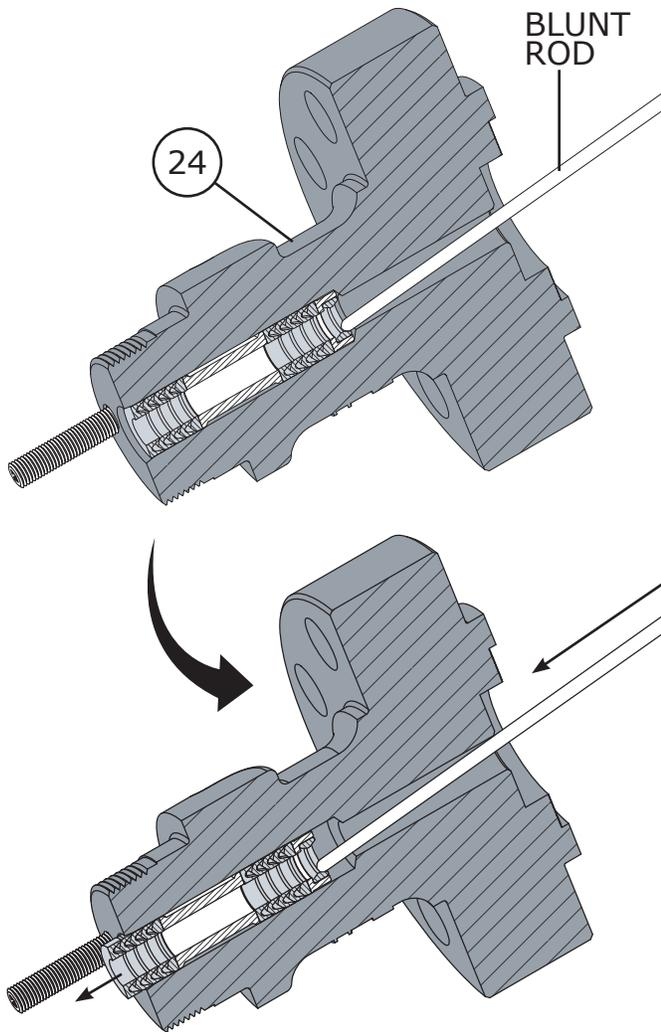

Figure 12 Packing Parts Removal (Step 1)
- 1 Using a blunt or rounded tool/rod, carefully tap the packing parts (Keys 28 to 38) out of the packing bore of the bonnet (Key 24). A mechanic's pick set can also be used to pull packing parts from the bore. Refer to Figure 12.